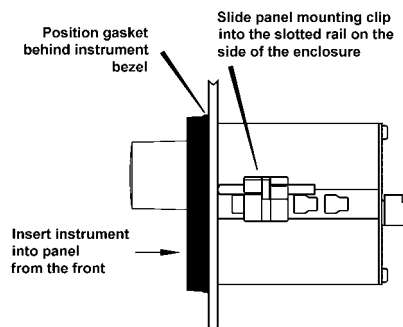

Fig 7 Fitting panel mounting clips
- b. Fix two panel mounting clips to opposite sides of the instrument and tighten until the indicator is secured as shown in Fig 7.